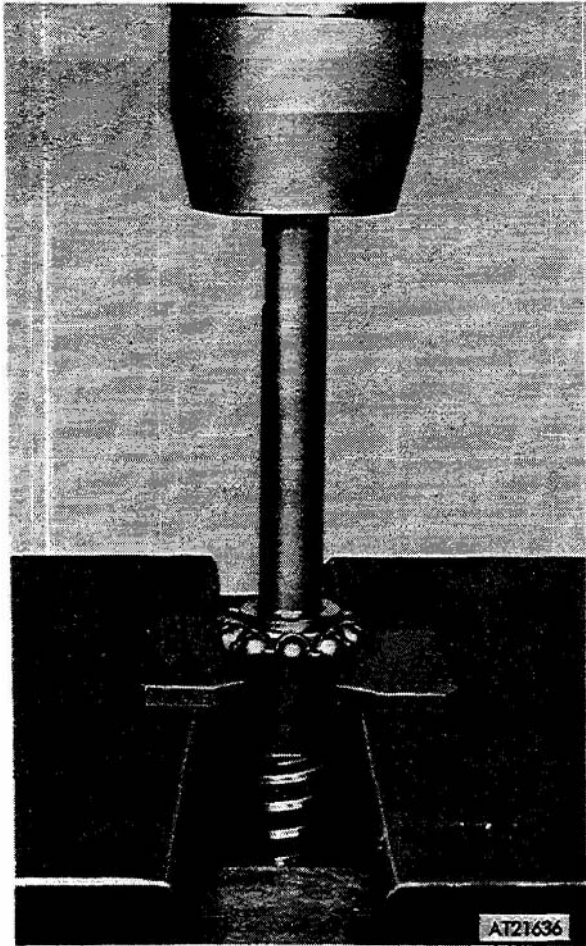

Figure 4-12. Removing worm shaft bearings.
(27) Remove assembled worm input shaft (7, fig 4-10) and input shaft bearings (5 and 23) from gear housing (6). Press bearings from shaft (fig 4-12).